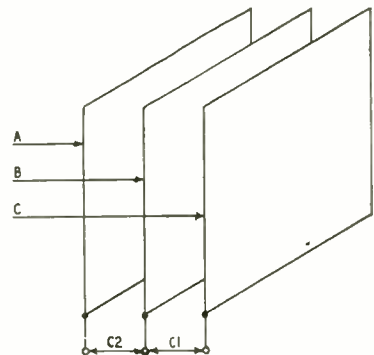

Fig. 3—The automatic voltage-regulating capacitor described in the text.
The new invention (Fig. 3) consists of a special capacitor with two fixed plates (A and C), and a single flexible plate (B). The capacitance BC (C1) is across the load; capacitance AB (C2) is part of the oscillator tank (Fig. 4-a). The oscillator is tuned to frequency P on the high-frequency side of the resonance curve (Fig. 4-b).